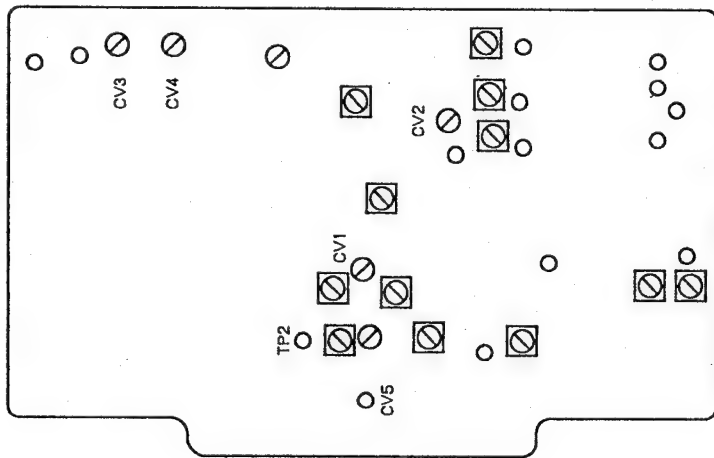

Fig. 18-5.
10. Adjust the clock phase until it becomes just as shown in Fig. 18-5 using CV3.
4. Adjust the frequency characteristics using DL3 on the BT board so that the waveform becomes symmetrical as shown in Fig. 18-5 with 3.58 MHz as center frequency.
6. Adjust the frequency characteristics using DL6 on the BT board so that the waveform becomes symmetrical as shown in Fig. 18-5 with 3.58 MHz as center frequency.
8. Adjust the frequency characteristics using DL8 on the BT board so that the waveform becomes symmetrical as shown in Fig. 18-5 with 3.58 MHz as center frequency.
10. Adjust the frequency characteristics using DL5 on the BT board so that the waveform becomes symmetrical as shown in Fig. 18-5 with 3.58 MHz as center frequency.